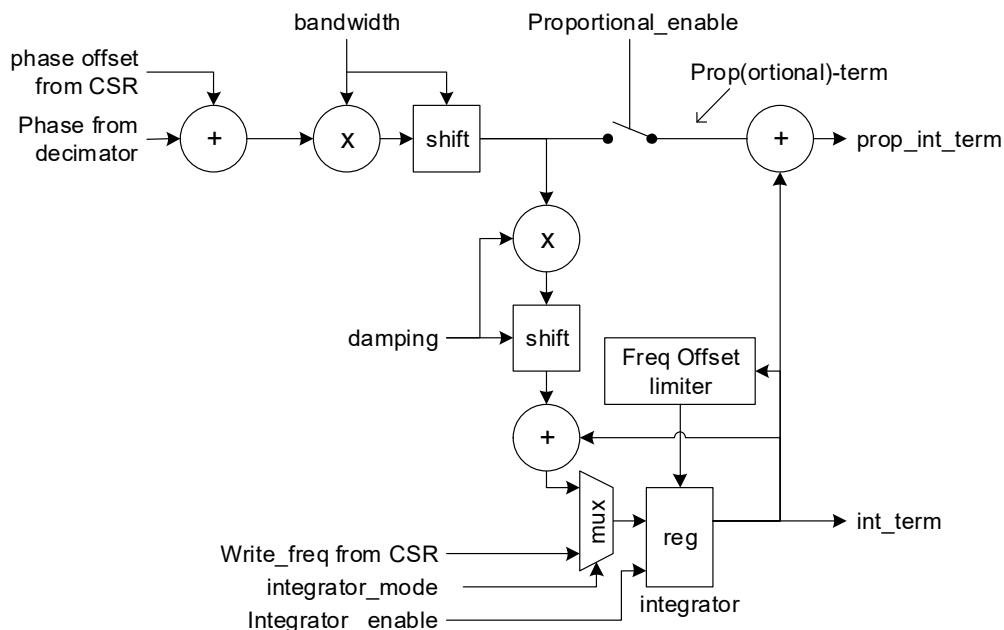

Figure 17. Loop Filter Block Diagram
The digital loop filter is a Proportional - Integrator (PI) type filter as shown in Figure 17. It is programmable to a bandwidth of approximately 0.1Hz to 12kHz.